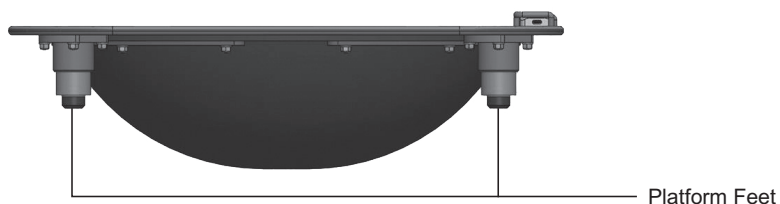

Figure 18: Platform feet position
1. Ensure Platform feet are retracted all the way up and are not in an extended position. See Figure 18.